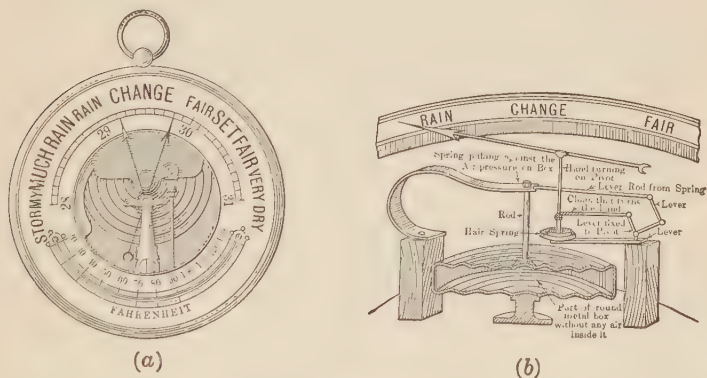

FIG. 52. — (a) Aneroid barometer. (b) Section of the same showing how motion of the side of the box causes pointer to move over dial.
58. The aneroid barometer. The mercurial barometer is the standard weather instrument; but for many purposes, as in making a continuous record of the atmospheric pressure, in measuring heights of mountains, in getting data for contour maps and in registering the elevation of an airplane, a lighter and more compact instrument, such as the aneroid barometer, Fig. 52, is better. The aneroid barometer accomplishes the same purpose as the mercurial barometer, but it works on a somewhat different principle. The essential part is a thin metal box, with corrugated sides, from